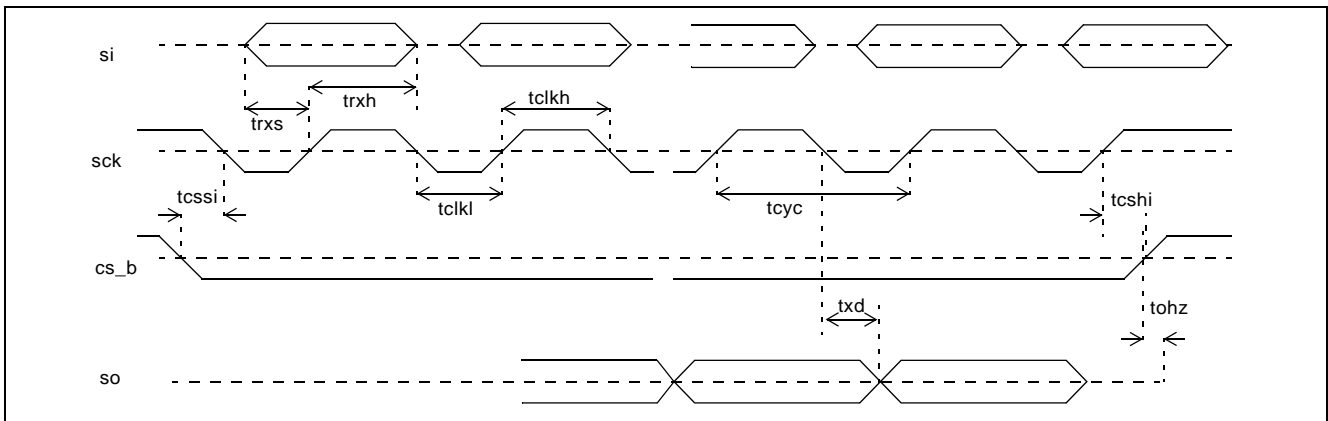

**Figure 31 - E1 Output Frame Pulse Timing**
**AC Electrical Characteristics\* - E1 Output Frame Pulse Timing (See Figure 31).**